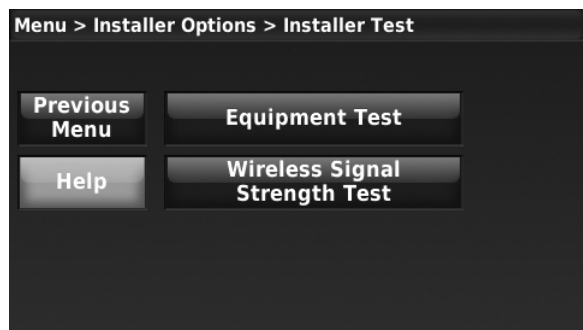

Fig. 41.
1. Press **Equipment Test** on the Installer Test screen (see Fig. 41). Turn the equipment on/off as needed and then press Next Test to test the remaining equipment. The time out for the Equipment Test mode is 30 minutes (if there is no keypress for 30 minutes, the thermostat will automatically exit the Equipment Test).
1. On the Installer Test screen (see Fig. 41) press **Wireless Signal Strength Test**.